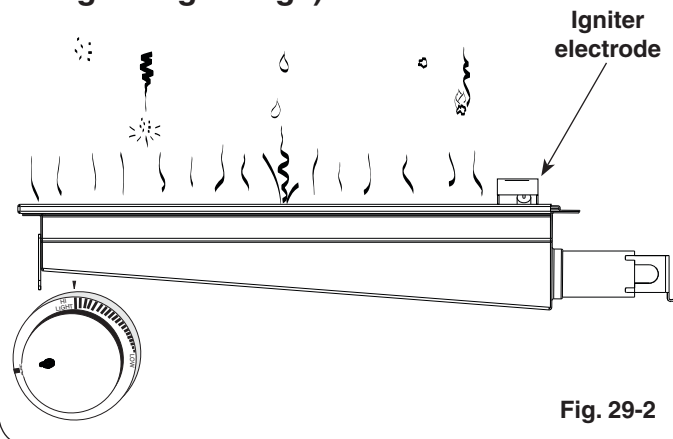

Fig. 29-2
- **DO NOT place food on the cooking grid until the IR burner glows orange (Fig. 29-2).** Drippings are heated and evaporate instead of sticking to and impairing burner function.